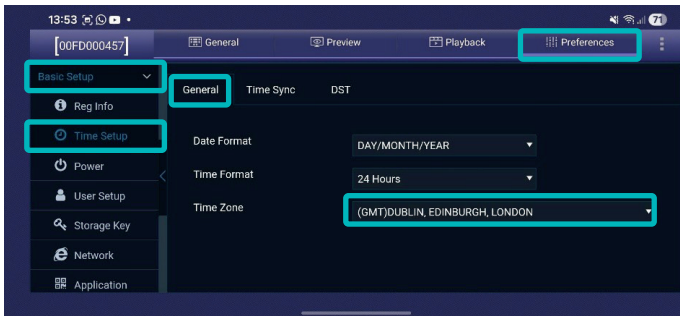

Fig. 5 If settings are changed, you must scroll down and select 'Save' to confirm.
- Adjust Time Zone if incorrect (Fig. 5).